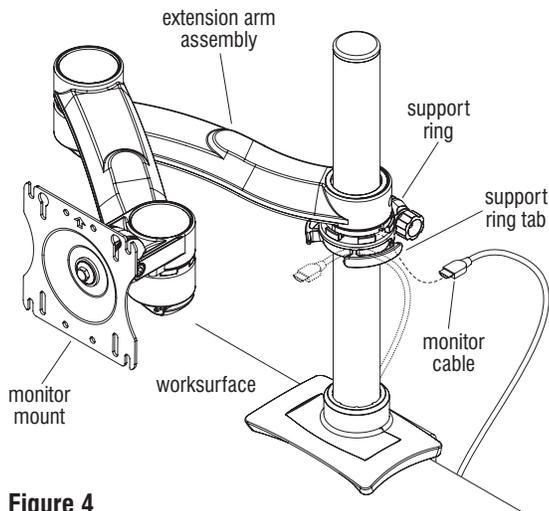
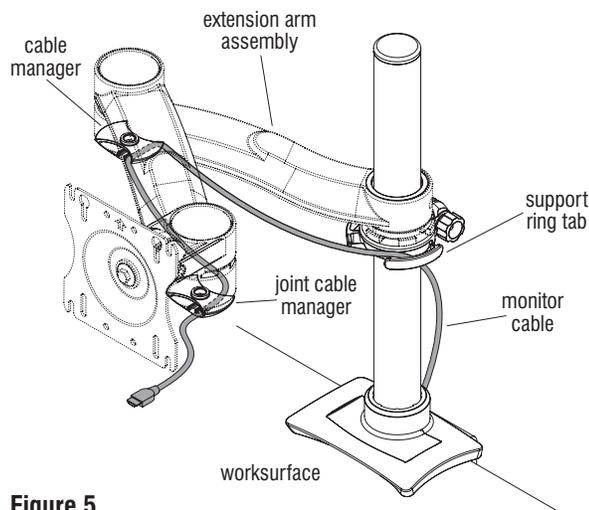

Figure 4
Figure 5
8. Insert monitor cables through support ring tabs (Figure 4). Next, feed monitor cables through joint cable managers located on the underside of extension arm assembly (Figure 5).